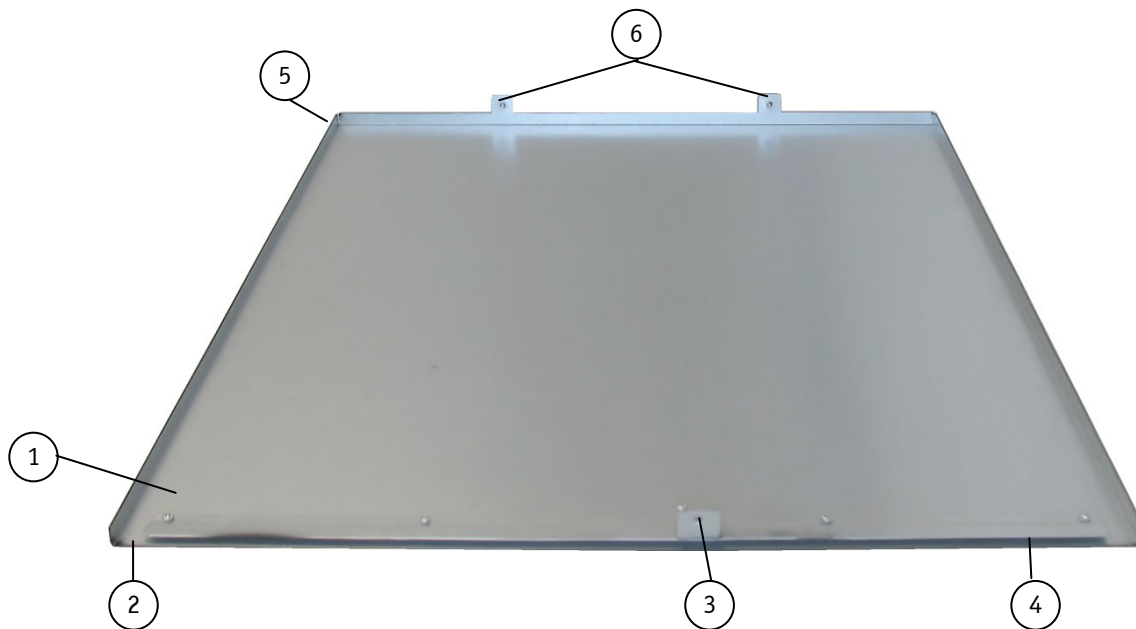

Fig. 26: Inside of the cover with fixing brackets
The cover will be fixed to the chassis using two fixing brackets at the front side of the cover (Fig. 26, pos.3 and pos. 4), two fixing brackets with captive knurled screws at the rear side of the cover (Fig. 26, pos.6) and the cover fastening screw (Fig. 12 and Fig. 13, pos. 14) at the front side of the KISS 4U V2 platform.
When closing the cover, make sure that the fixing brackets (Fig. 26, pos. 3 and pos. 4) are inserted properly into the corresponding retaining bracket of the cabinet (Fig. 8, pos. 4). The centering bracket (Fig. 26, pos. 3) and the front cover fastening screw (Fig. 12 and Fig. 13, pos. 14) secure the cover on the front side.
3. Pull the cover out a little bit (Fig. 30) to release the cover centering and fixing brackets (Fig. 26, pos.3 and pos. 4) from the retaining brackets of the chassis (see Fig. 8, Fig. 9, pos. 4).